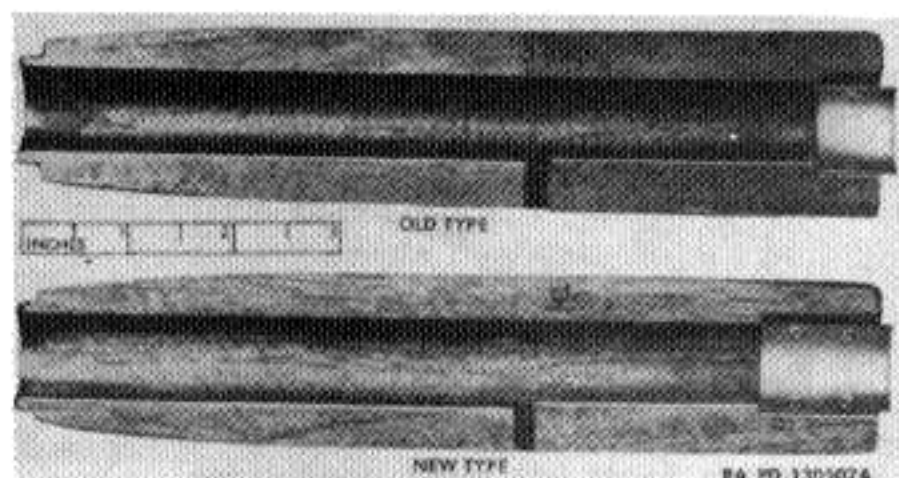

Figure 99. Hand guard assembly 6212602.
h. Hand Guard Liner. Check to assure that liner in hand guard assembly is not distorted and is securely fastened to hand guard. Liners with two rivets or with four rivets, if serviceable, may be used on carbines M1 and M1A1. Only the four-rivet type hand guard assembly 6212602 is to be used on the carbines M2 and M3 (Fig. 99).